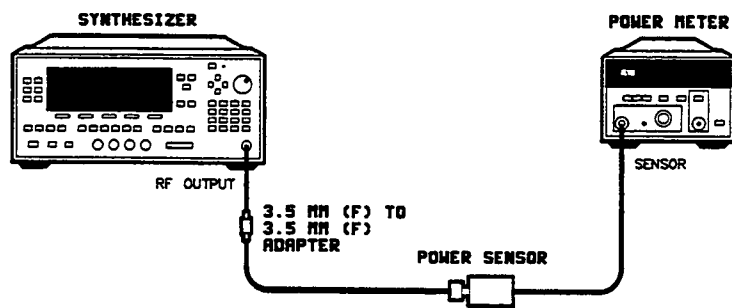

Figure 3-39. Square Wave Symmetry Adjustment Setup
1. Turn on the equipment shown in figure 3-39 and let them warm up for at least one hour.
3. Connect the equipment as shown in figure 3-39 and preset the instruments.